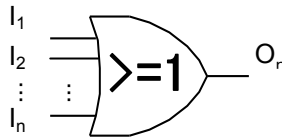

Fig. 5-22 OR function circuit
As shown in Fig.5-22 and 5-23, this function reflects the results of a logic (OR) function processing for multiple inputs (I_n) in the function output (O_n).